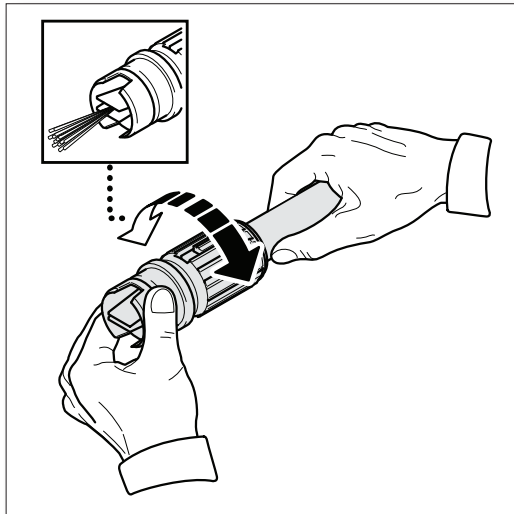

Fig. 22
- Take off the adjustable lance. Rotate the nozzle on the adjustable lance + settling which opens up the fan blades. (**Fig. 22**).